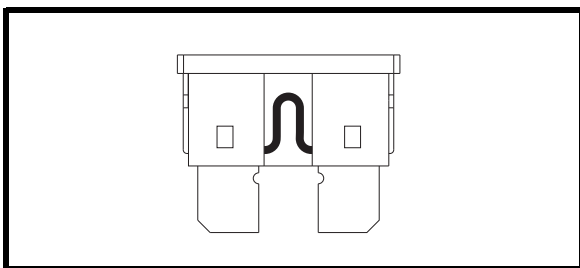

Figure 19. Working Fuse
**WARNING!** Position the front-to-rear harness so it will not become pinched between the frame halves when pivoting the rear section forward. See figure 19.
2. Examine the fuse to be sure it is blown. See figures 19 and 20.